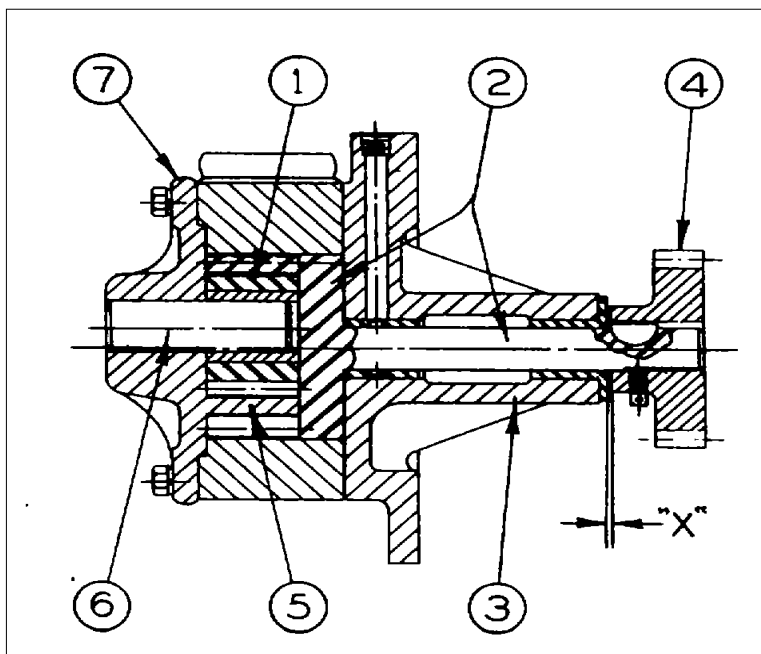
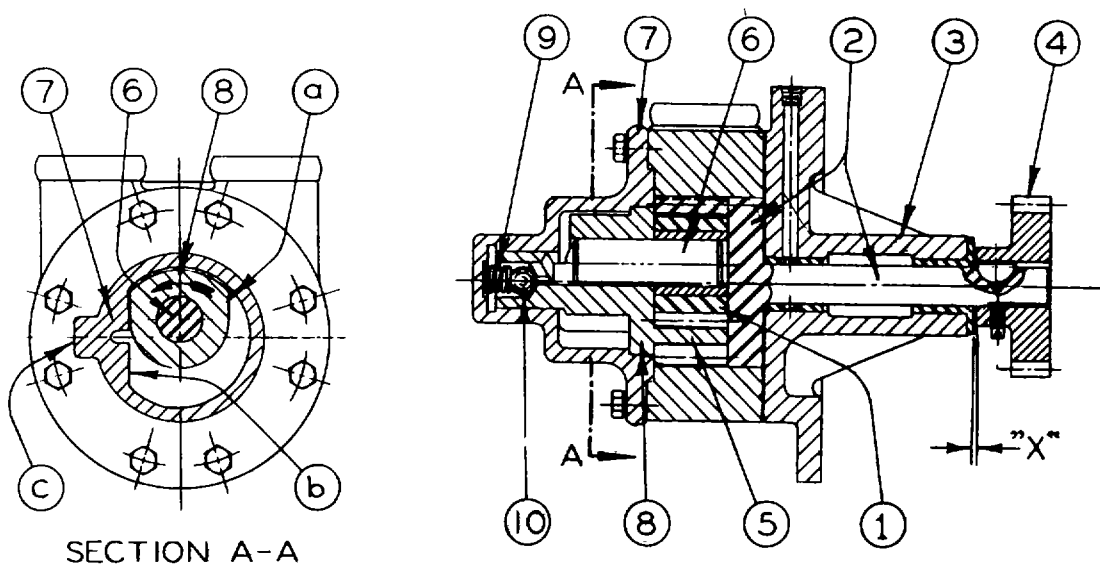

FIG T-1.
FIG. T-2.
of a small idler pinion meshing with internal teeth on a larger driving gear. Fig. T-1 shows the pump used on stationary and reverse gear marine engines. Driving gear (2) with its shaft extension is driven by gear (4) and is bearinged in housing (3). Idler gear (1) is bearinged on a pin (6) which in turn is pressed into cover (7). The external driving gear and the pinion mesh at the top on Fig. T-1, and since the idler pinion is mounted eccentrically relative to the driving gear there will be a space at the bottom between the two gears. This space is filled up by a crescent shaped baffle (5) which is part of cover (7). As the driving gear turns oil is then forced from one side of FIG T-1 the pump to the other by the action of the two gears meshing and the crescent shaped baffle. Also by these means the suction and discharge connections can easily be exchanged for a given direction of rotation by turning cover (7) 180°. Alternatively the suction and discharge connections can be kept the same for different directions of rotation by turning the cover 180°
The lubricating oil pumps on direct reversible marine engines are shown on Fig. T-2 in which similar parts have the same reference number as on Fig. T-1. In this case, however, pin (6) on which pinion (1) turns is mounted in a carrier (8) which in turn is held by, and can turn in, cover (7). Crescent (5) in this case is a part of the carrier. The carrier assembly is pressed against the driving gear by spring (9) and ball (10) and will consequently tend to follow the rotation of the gear. Assuming, for example, that the driving gear (2) rotates in the direction of rotation shown by the arrow in Section A-A of Fig. T-2, then the whole carrier assembly, including the pinion, will
The total end play of the pump drive gear should be very small, only about .002" to .003". However, some end play must be allowed. This is particularly important on marine engines. When the engine is reversed the crescent can then move in the new direction of rotation until it is up against the stop. The end play 'X' (refer to Fig. T-1 and T-2) between the drive gear (4) and housing (3) should be .003" to .005" with the drive gear against the housing face.